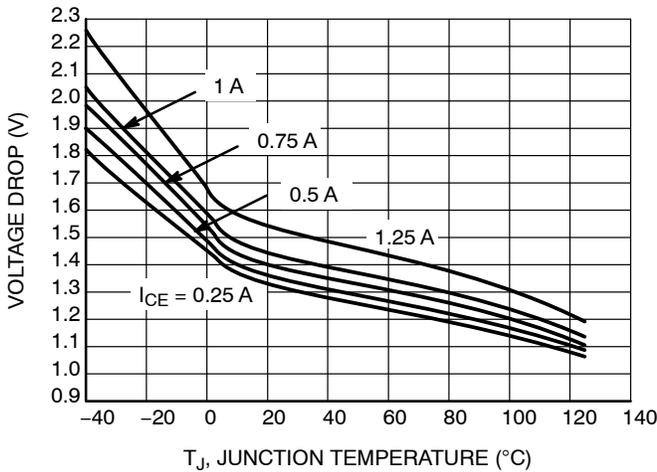

Figure 7. Emitter Follower Configuration Output Darlington Switch Voltage Drop vs. Temperature
- 8. V_{SWCE} – Darlington Switch Collector to Emitter Voltage Drop, refer to Figures 7, 5, 8 and 9.